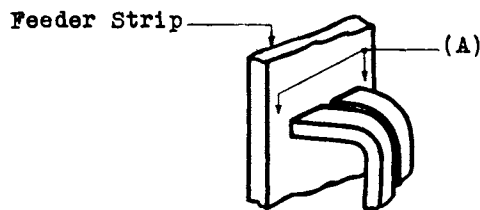

Fig. 5
- 2.07 Horizontal Position of Feeder Springs - Fig. 5 (A) - The contact portion of the lip of the feeder springs shall make contact for their full width with the feeder strips when the play of the commutator brush assembly is taken up in either direction for any position of travel of the commutator brush. Gauge by eye.